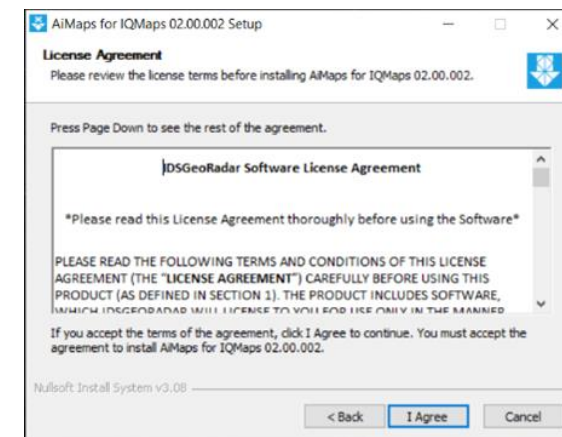

Fig. 10 AiMaps install step 2
3. Select ***I Agree*** button to accept the License Agreement (Fig. 10),